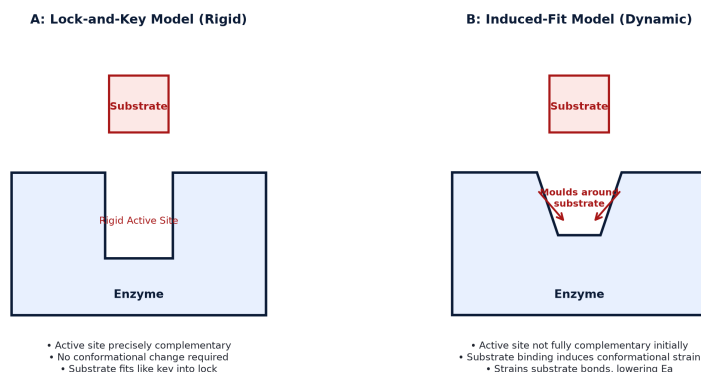

Fig. 3.2: Comparison of the rigid lock-and-key model (A) and dynamic induced-fit model (B).
Historically, Emil Fischer proposed the rigid 'lock-and-key' model, while Daniel Koshland refined this into the dynamic 'induced-fit' hypothesis. Fig. 3.2 compares these two models of catalytic mechanism.
- (a) Describe the fundamental difference between the lock-and-key model and the induced-fit model shown in Fig. 3.2. [2]